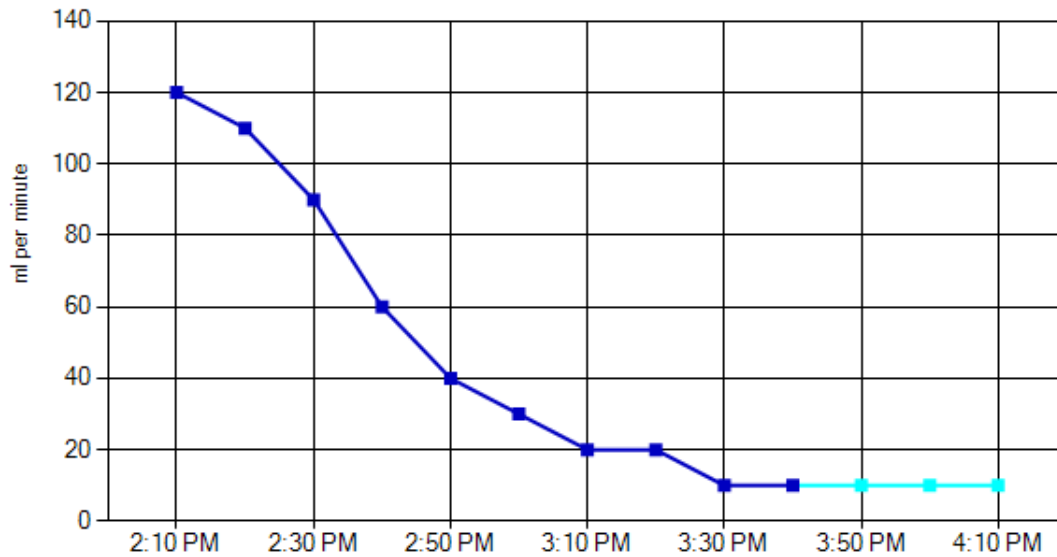

Fig. 19. Water Consumption Rate against time. The cyan points represent steady flow rate ( $Q$ ).
**Secure the Tape using the Tape Holder** when you feel the unit has touched the bottom of the borehole (Fig. 19).
**Secure the Tape** using the Tape Holder (Fig. 19).